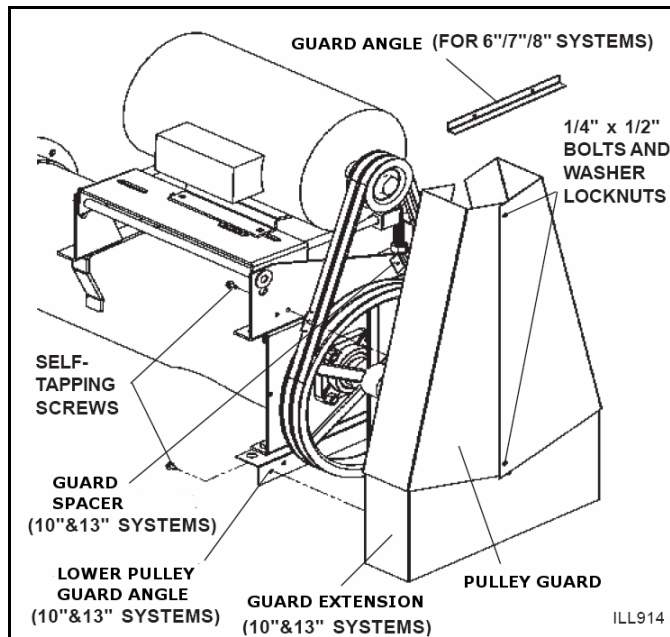

Figure 3.6 Pulley Guard
5. For 6"/7"/8" augers, assemble the adjustable two-piece pulley guard with two 1/4" x 1/2" bolts and washer locknuts. For 10"/13" augers, assemble the adjustable three-piece pulley guard with four 1/4" x 1/2" bolts and washer locknuts (see Figure 3.6).